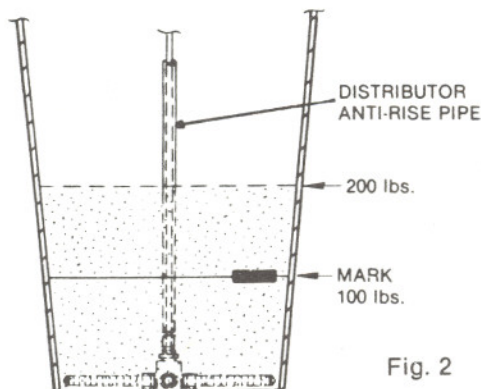

Fig. 2
3. Cut clear, flexible vinyl tubing to 34" length and add a tubing insert (Key No. 32 on Parts List) to each end. Slip free end of tubing into connector at outlet of syphon breaker and tighten compression nut until tubing is held securely. Slide PVC anti-rise pipe over tubing. Connect other end of tubing to distributor tube assembly in same manner. Distributor tube assembly should rest just at bottom of tank. (See Fig. 2)
1. Open hinged cover and add 100 lbs. (45kg) of Sodium Fluoride to the tank. Evenly distribute powder/crystals and mark outside wall of the tank at the level of the Sodium Fluoride bed. (See Fig.2)